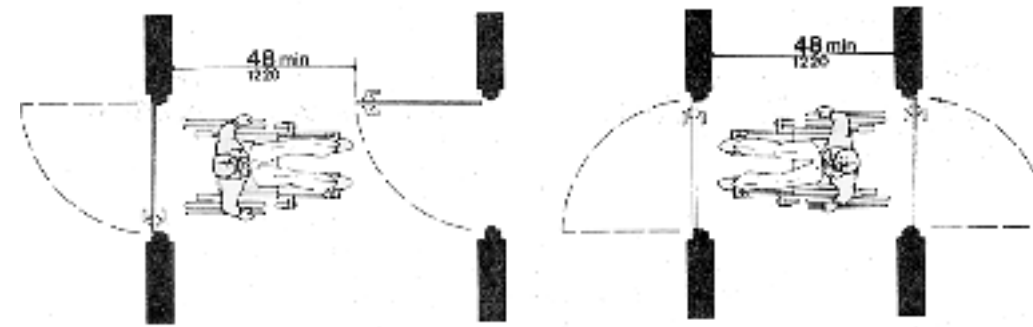

Figure 26
**4.13.7 Two Doors in Series.** The minimum space between two hinged or pivoted doors in series shall be 48 in (1220 mm) plus the width of any door swinging into the space. Doors in series shall swing either in the same direction or away from the space between the doors (see Fig. 26).